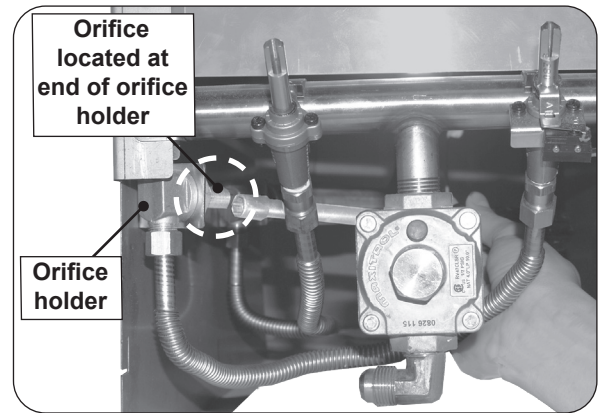

Fig. 42-1 Orifice locations
4. Using a $\frac{3}{8}$ " socket nut driver, remove the orifice from the orifice holder (see Fig. 42-1) and check the number stamped on the orifice face.